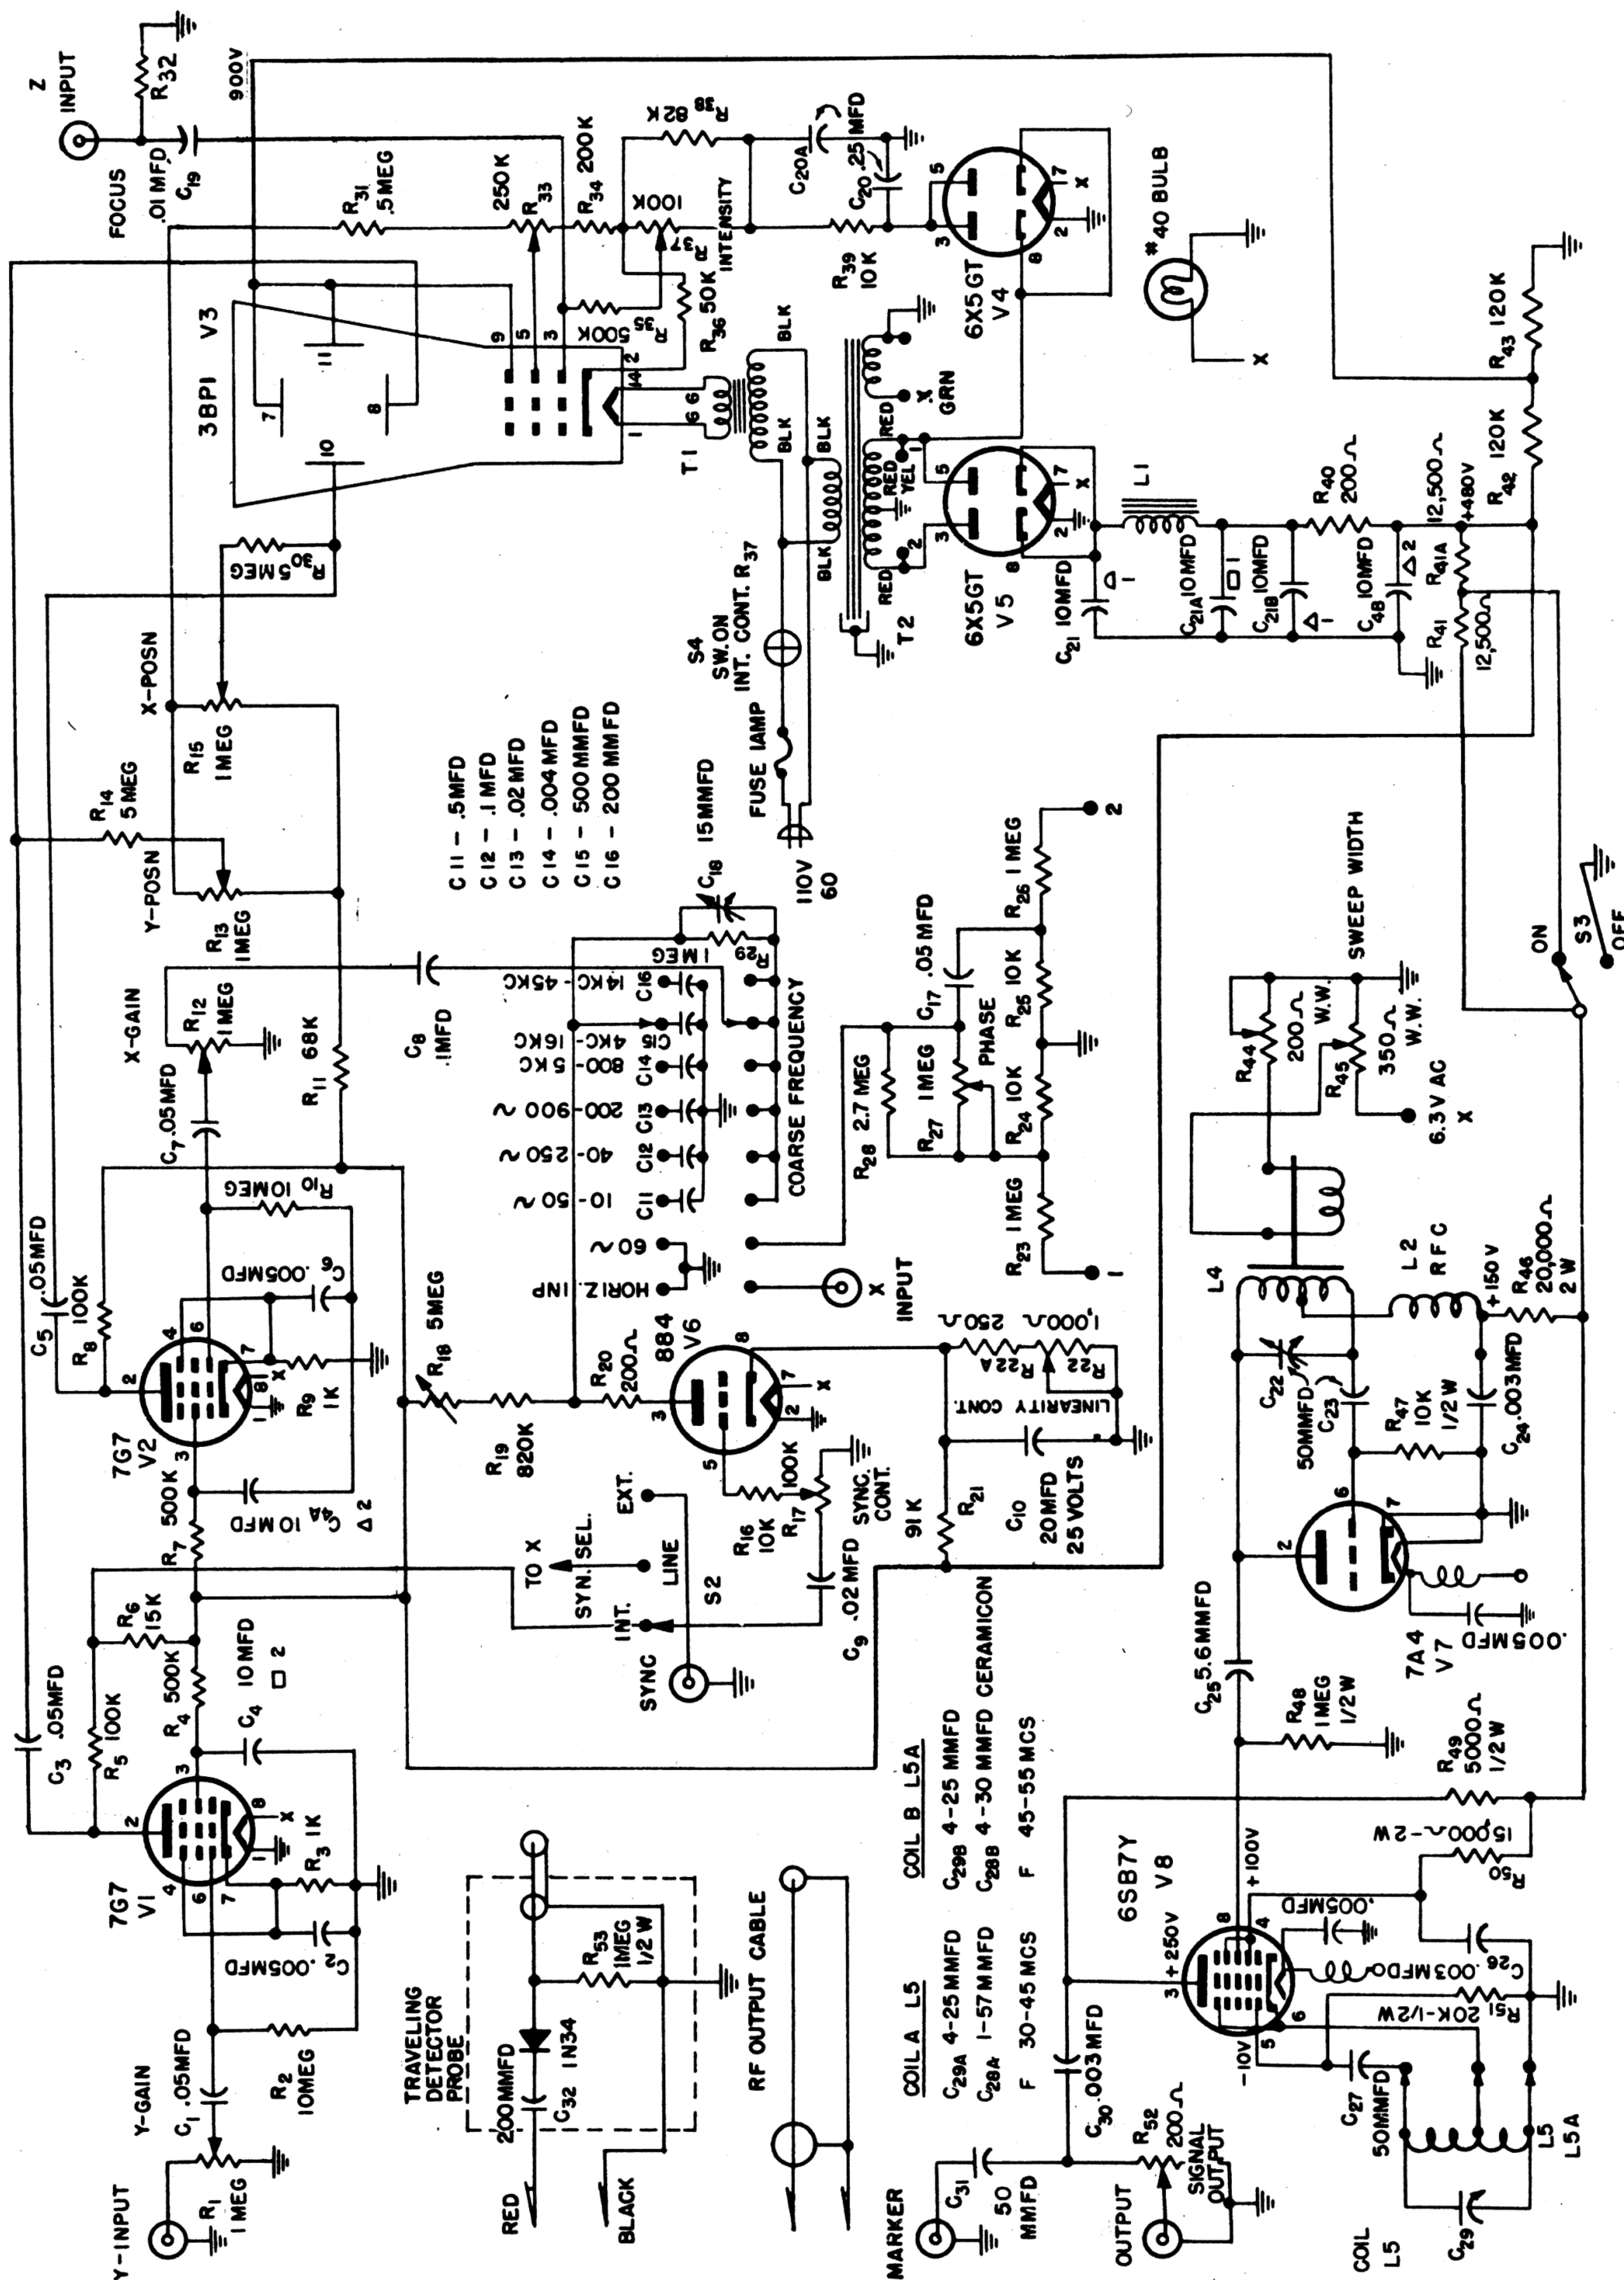

Fig. 22-46.—Schematic of Radio City Products Model TV-90.
The schematic circuit diagram for Model TV 90 is shown in Fig. 22-46. This instrument, primarily designed for television alignment, contains also an r-f oscillator and reactance modulator, besides the basic oscilloscope section. There is also available a "travel" probe which may be used to pick up an r-f signal, demodulate it, and feed the signal to the vertical (Y) input of V1.